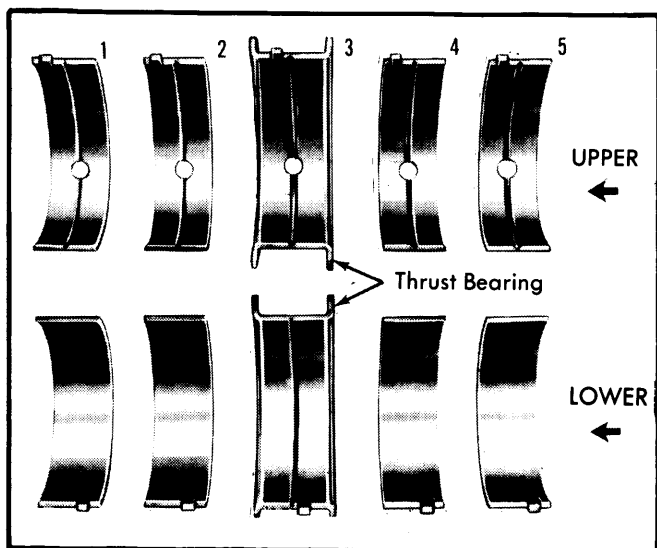

Fig. 11 Main Bearing Identification Showing Location of Thrust Bearing
3) Number 3 upper and lower main bearings are the thrust bearings and are not interchangeable with any other bearings. See Fig. 11.